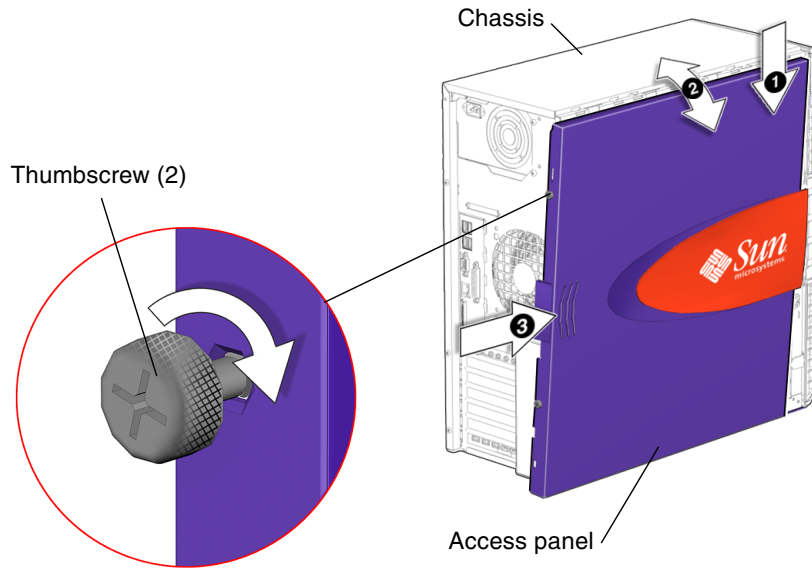

FIGURE 15-7 Installing the Access Panel
5. **Align the bottom of the access panel with the chassis (FIGURE 15-7).**